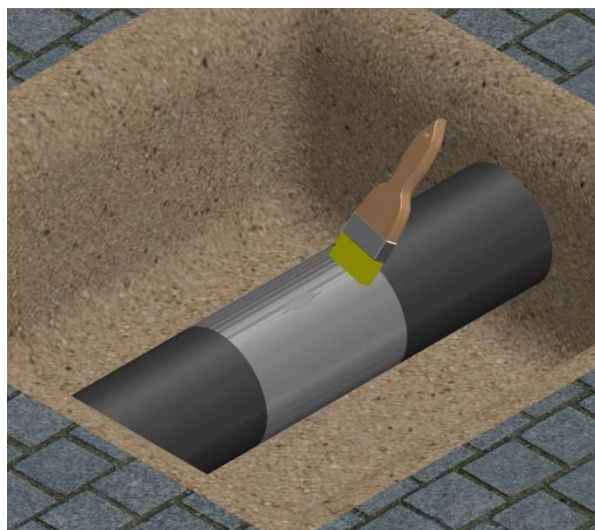

Bild 3.1 / figure 3.1
2. Clean the pipe minimum in the contact area of the repair clamp (figures 2.1 and 2.2), peel off eventually present additive protective and barrier layers (figures 3.1 and 3.2).
3. Apply drinking water approved lubricant on the pipe. This helps to adopt the rubber to the outside diameter of the pipe (figures 3.1 and 3.2).